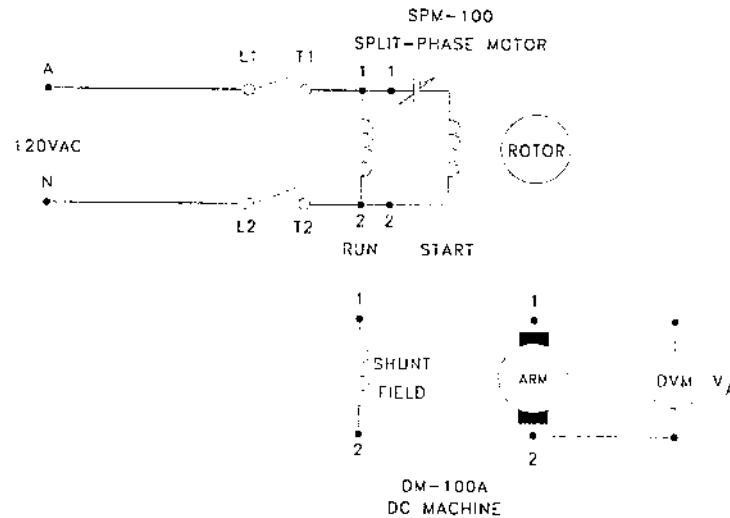

Figure 2-1
1. Couple the DC generator to the prime mover (AC motor) and connect the 120 VAC to the motor as shown in Figure 2-1. Install the shield over the shaft coupling. Have the instructor check your connections.